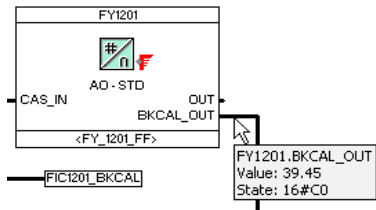

Figure 179. Online Data
- b. Move the mouse cursor on a block pin or an FF signal line to display the current values of input or outputs (refer to Figure 179).